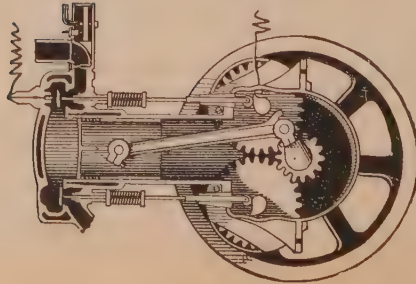
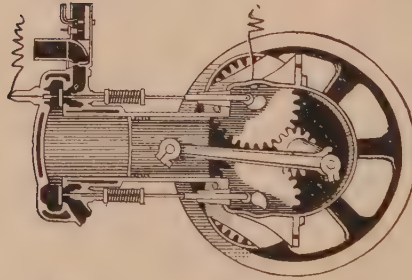
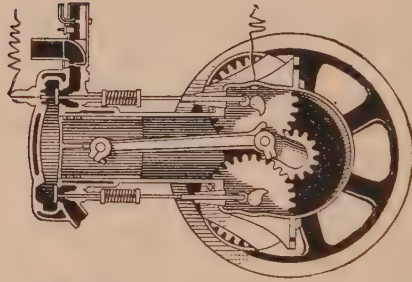
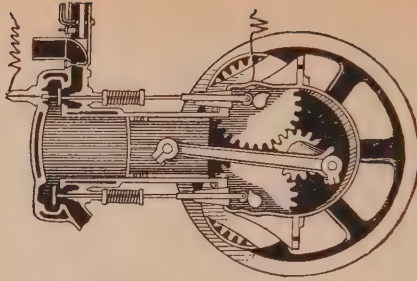

FIG. 3
FIG. 4
FIG. 5
FIG. 6
**FIGS. 3 TO 6.**—Sectional diagrams through a single cylinder of a gasoline Engine, showing the four successive stages in the four cycle working. In these diagrams both the inlet and exhaust valves are positively operated from cams on secondary shafts. The cam shafts, as shown, being on a two to one reduction, turn half as fast as the main shaft. Fig. 3 shows the cams and piston in a position about half way through the inlet stroke, when, as seen, the inlet valve is held open. Fig. 4 shows the beginning of the compression stroke, all valves being closed. Fig. 5 shows the engine ready for firing, all valves still closed. Fig. 6 shows the end of the firing stroke and the beginning of the exhaust, the exhaust valve being open. The view of the engine is that seen at the front looking toward the front of the vehicle. The fly wheel rotates clockwise; the cam shafts counter-clockwise.